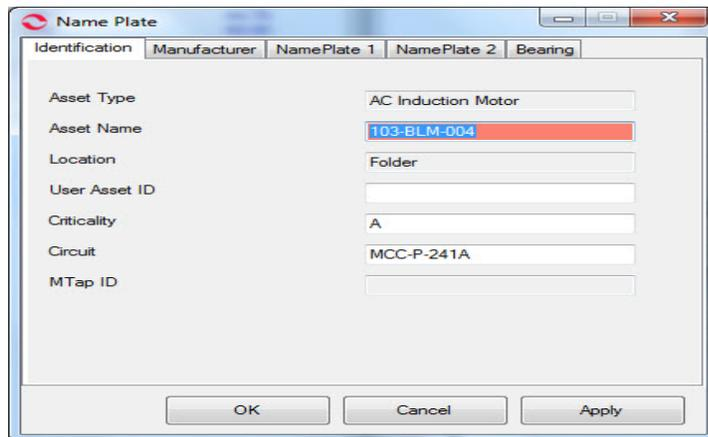

Figure 3-20: Nameplate Window Using Edit Asset
3. The Nameplate window shown in Figure 3-20 opens.